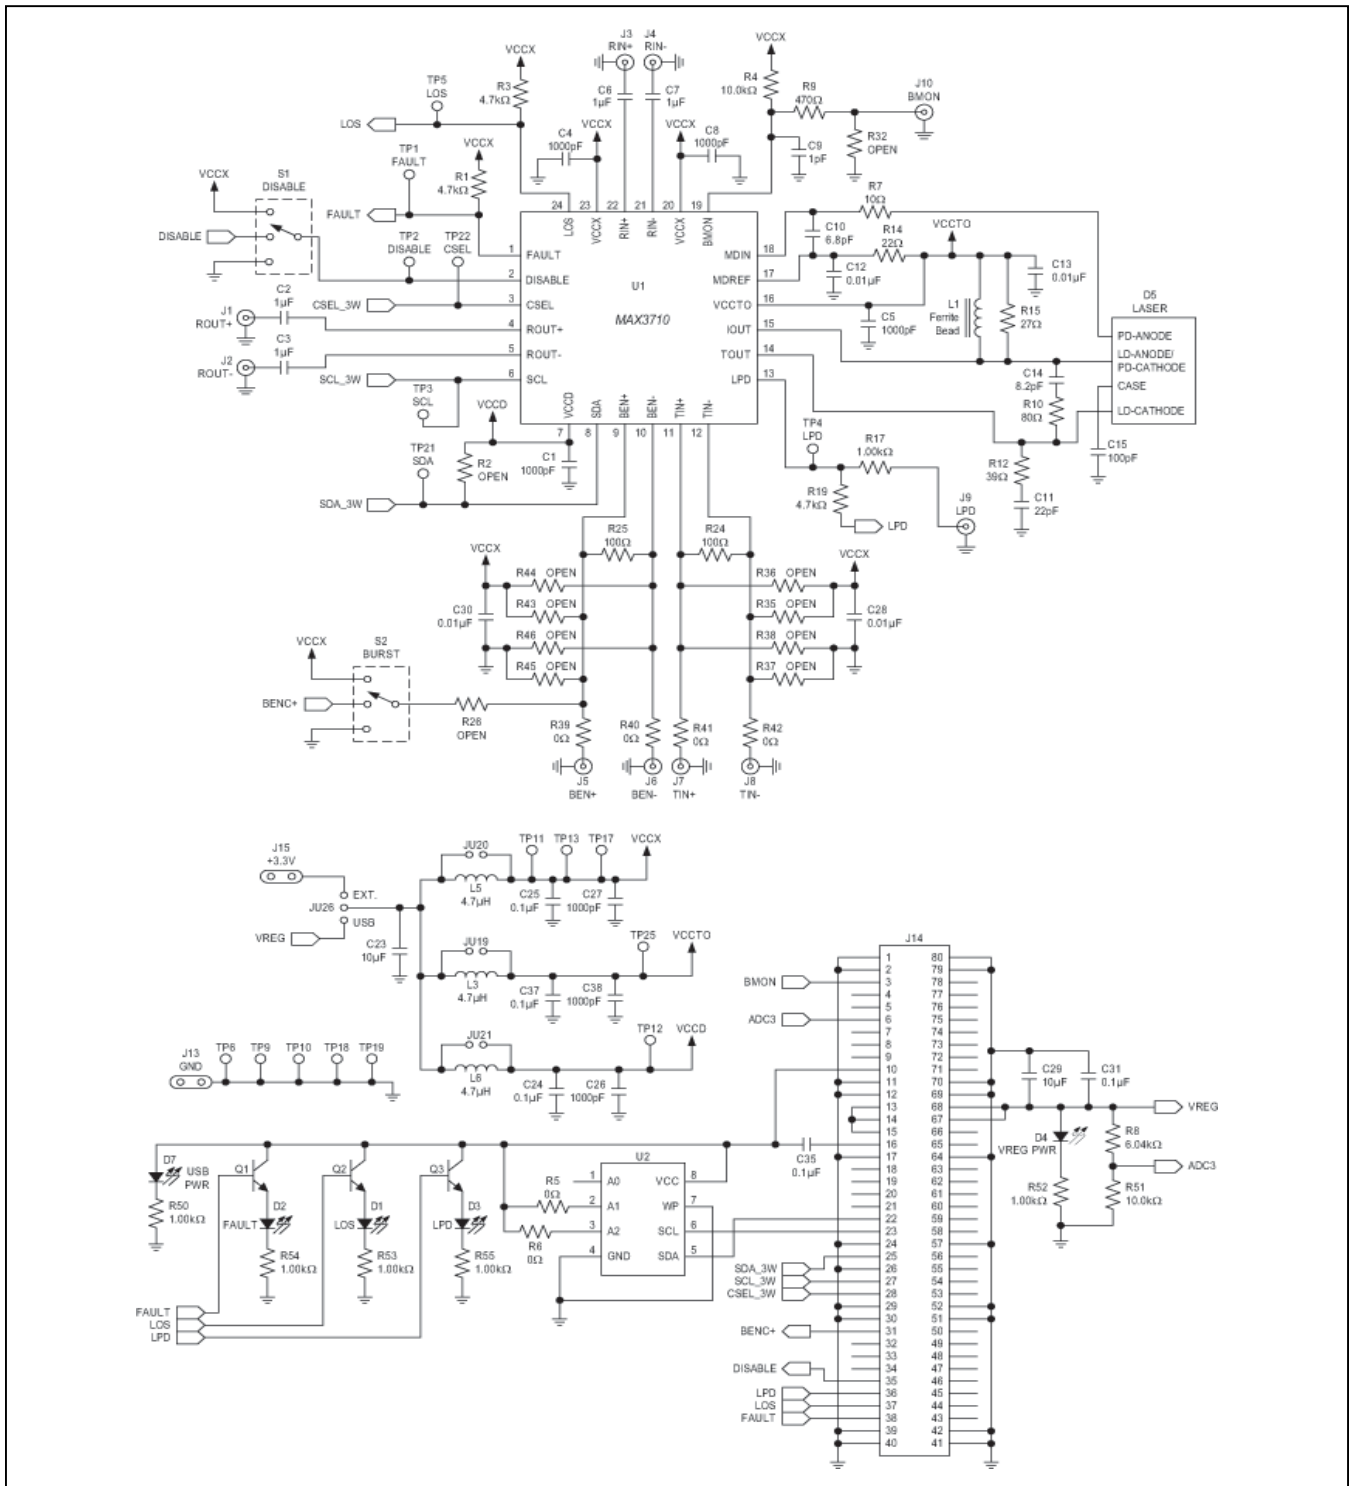

Figure 3. MAX3710 EV Kit Schematic
- a) If using the input SMA connectors, the default EV kit components are set up for a CML or LVDS source. If you have a different source or would like operate the EV kit single-ended, refer to Figure 3 in the MAX3710 IC data sheet for information on how to configure the BEN input.